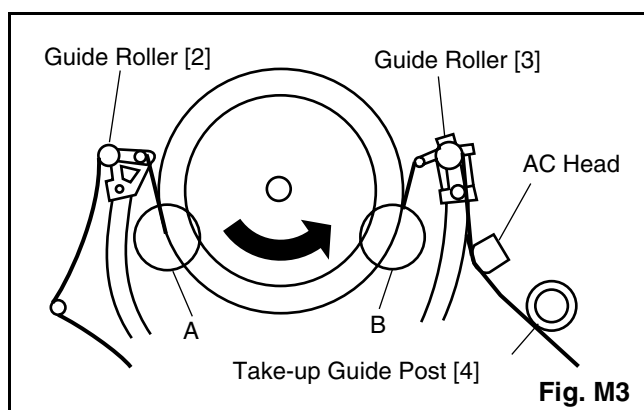

Fig. M3
1. Playback a blank cassette tape and check to see that the tape runs without creasing at Guide Rollers [2] and [3], and at points A and B on the lead surface. (Refer to Fig M3 and M4.)
2. If creasing is apparent, align the height of the guide rollers by turning the top of Guide Rollers [2] and [3] with a Guide Roller Adj. Screwdriver. (Refer to Fig. M3 and M5.)
3. Check to see that the tape runs without creasing at Take-up Guide Post [4] or without snaking between Guide Roller [3] and AC Head. (Fig. M3 and M5)
2. Playback the Gray Scale on the Alignment Tape (FL6NS8). Set the Tracking Control Circuit to the center position by pressing CH UP button and then "PLAY" button on the unit. Adjust the height of Guide Rollers [2] and [3] (Fig. M3, Page 2-3-3) watching the oscilloscope display so that the envelope becomes as flat as possible. To do this adjustment, turn the top of the Guide Roller with the Guide Roller Adj. Screwdriver.
3. If the envelope is as shown in Fig. M7, adjust the height of Guide Roller [2] (Refer to Fig. M3) so that the waveform looks like the one shown in Fig. M9.
4. If the envelope is as shown in Fig. M8, adjust the height of Guide Roller [3] (Refer to Fig. M3) so that the waveform looks like the one shown in Fig. M9.
5. When Guide Rollers [2] and [3] (Refer to Fig. M3) are aligned properly, there is no envelope drop either at the beginning or end of track as shown in Fig. M9.
Note: Upon completion of the adjustment of Guide Rollers [2] and [3] (Refer to Fig. M3), check the X Value by pushing the CH UP or DOWN buttons alternately, to check the symmetry of the envelope. Check the number of pushes to ensure center position. The number of pushes CH UP button to achieve 1/2 level of envelope should match the number of pushes CH DOWN button from center. If required, redo the "X Value Alignment."